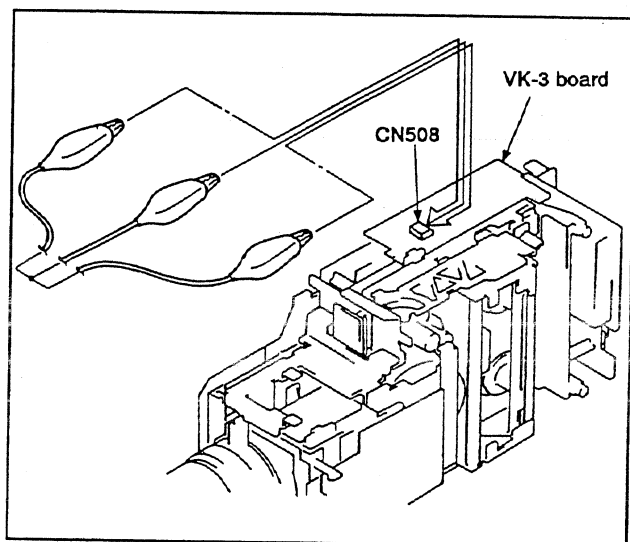

Fig. 8-1.
- Connect the TEST A terminal and TEST B terminal to the COM terminal. Connect Pin ① and Pin ③ of CN508 on the VK-3 board to Pin ②. (See Fig. 8-1.)